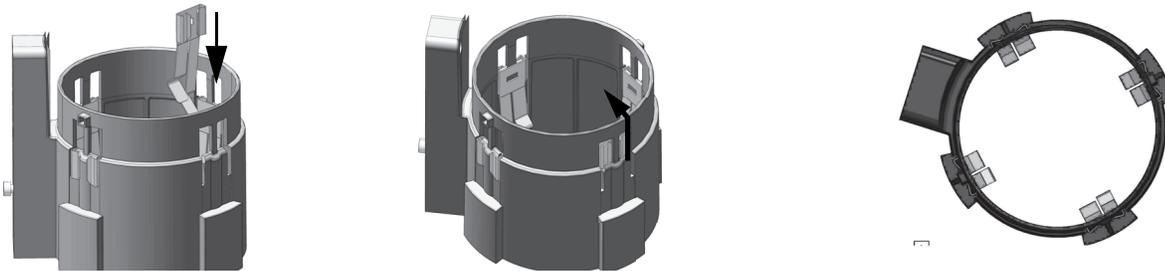

Figure 34.
7. Reinsert the finger in cup dispenser by pushing the finger in downwards direction as shown in Figure 34..